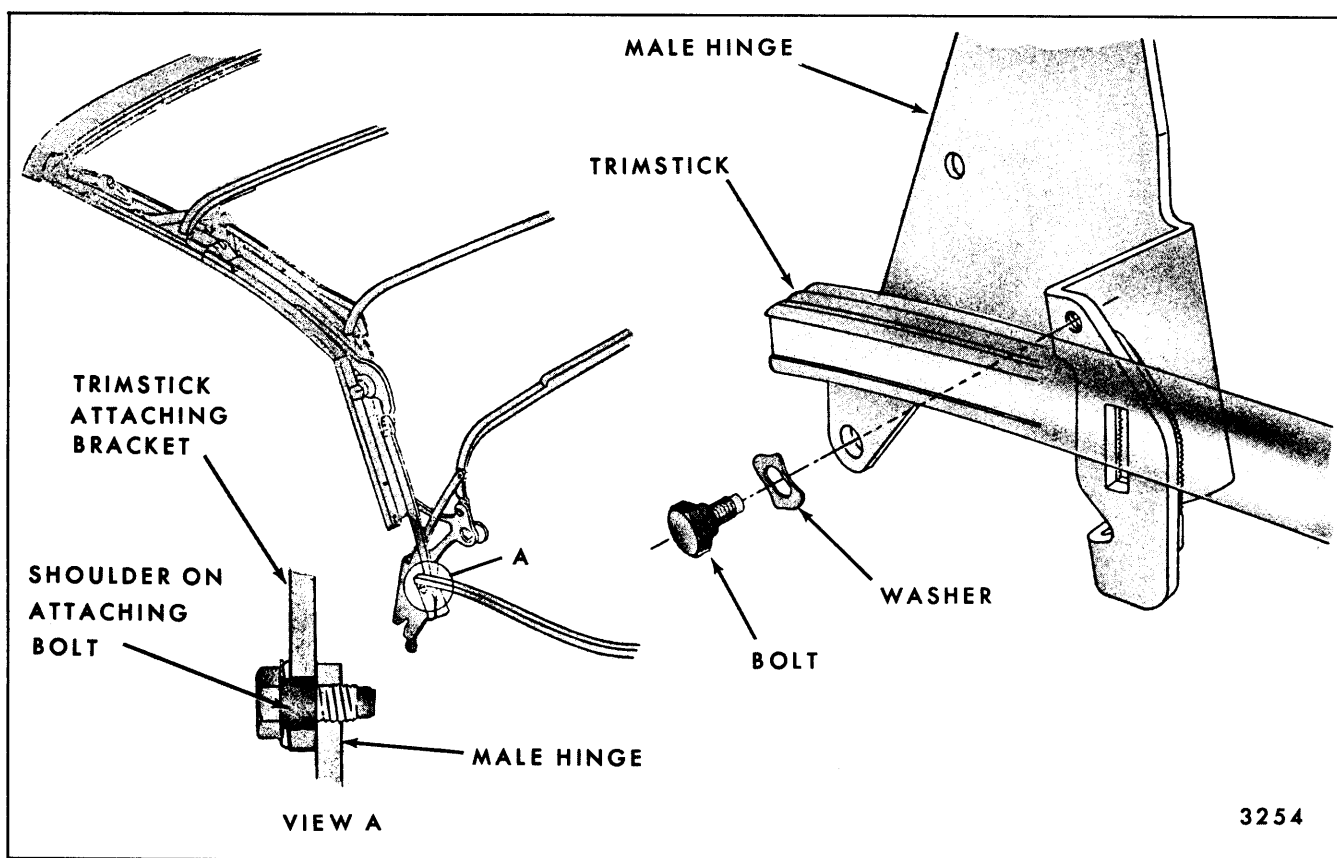

Fig. 13-27—Trimstick Attachment "A" Styles
9. Secure rear trimstick(s) to body assembled position and tighten all attaching bolts (Fig. 13-27, 13-29 and 13-31).
On "A" styles, use a suitable box-socket type wrench to remove each bolt from "outside" surface of male hinge (Fig. 13-27 and 13-28).